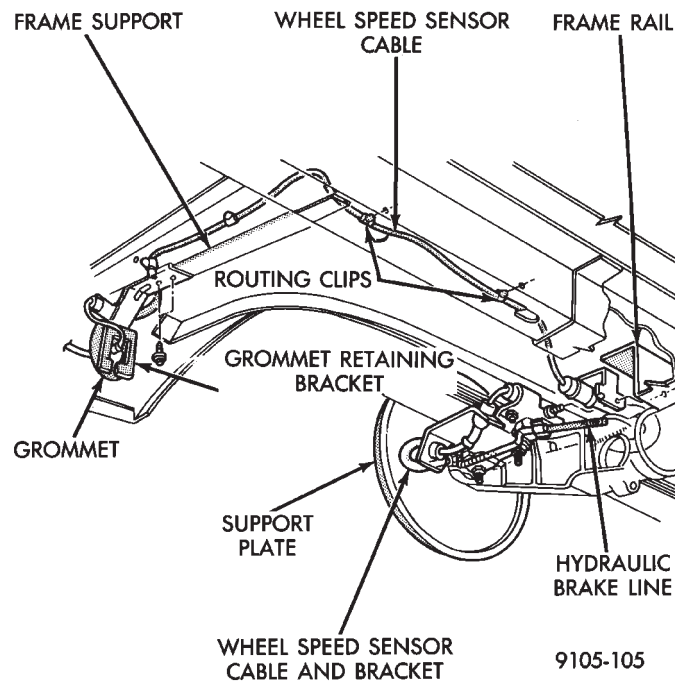
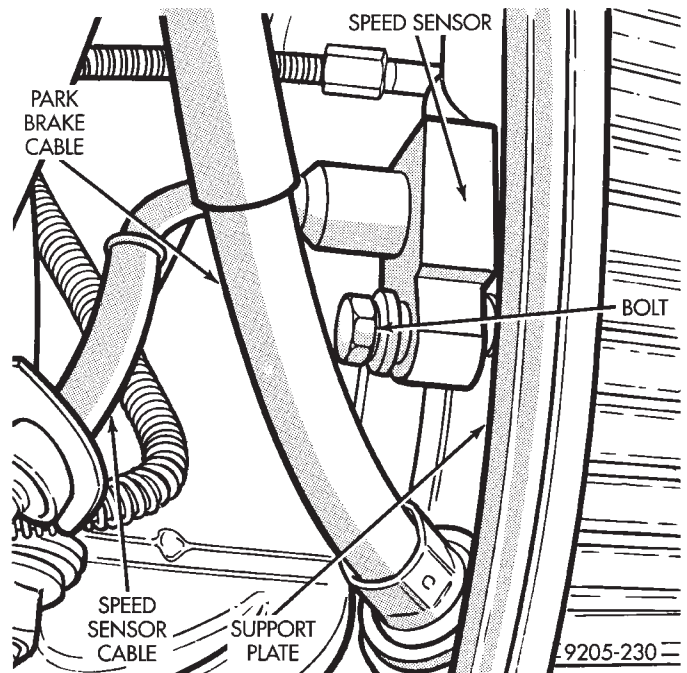

Fig. 21 Rear Wheel Speed Sensor Routing FWD
Fig. 22 Rear Speed Sensor F.W.D.
(1) Raise vehicle and remove rear wheel and tire assembly.
(2) Remove rear speed sensor wiring grommet retaining bracket. Remove grommet from underbody and pull harness through hole in underbody. (Fig. 21) **When removing grommet from underbody, do not pull on speed sensor cable.**
(3) Unplug speed sensor cable connector, from vehicle wiring harness.
(4) Remove the 4 arrow head clips which route the speed sensor wiring along the underbody (Fig. 21).
(5) Remove the wiring to frame rail attaching bracket (Fig. 21).
(6) Loosen and remove the rear axle U-bolt nuts, which retain the rear speed sensor cable assembly mounting bracket. Remove the bracket from the vehicle.
(7) Remove speed sensor head to rear brake support plate, attaching bolt (Fig. 22).
(1) Position the rear speed sensor cable and bracket assembly on the rear axle U-bolt (Fig. 21). Install the rear axle U-bolt nuts and tighten to 88 N•m (65 ft. lbs.) torque.
(2) Coat the speed sensor head with High Temperature Multi-Purpose E.P. Grease. Install the speed sensor head into rear brake support plate. On the driver side the speed sensor wire is routed between the brake tube and the wheel brake. Torque the speed sensor to rear brake support plate attaching bolt (Fig. 22) to 7 N•m (60 in.lbs.)
(3) Bend the speed sensor cable assembly, rubber coated section toward the front of the vehicle. Position the anti-rotation tab of the sensor assembly from frame rail bracket into its respective hole. Install the screw that attaches the frame rail bracket to the frame and torque to 4 N•m (35 in. lbs).
(4) Connect the speed sensor cable assembly to the vehicle rear wiring harness. Install the speed sensor cable assembly grommet (Fig. 21) back into the underbody wiring access hole.
(5) Position the rear sensor assembly grommet retaining bracket back on the underbody, (Fig. 21) making sure the bracket does not pinch the sensor wiring. Install the 2 bracket mounting screws and torque to 4 N•m (35 in.lbs.).
(6) Route the speed sensor wiring along the vehicle frame rail (Fig. 21) and install the 4 arrow clips.
(7) Install the rear wheel assembly and torque the wheel stud nuts to 129 N•m (95 ft.lbs.)